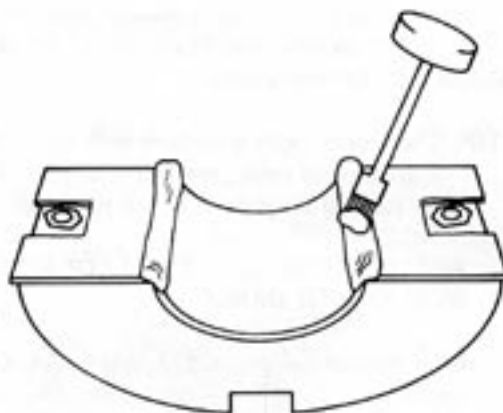

Figure 21 — Applying C-Cement to End Plate Half
9.03 Before applying the prepared End Plate halves to cable, apply the C-Cement 1/2" (1.27 cm) wide adjacent to the hole and 1/2" wide into the hole for the total width of the End Plate. Figure 21.